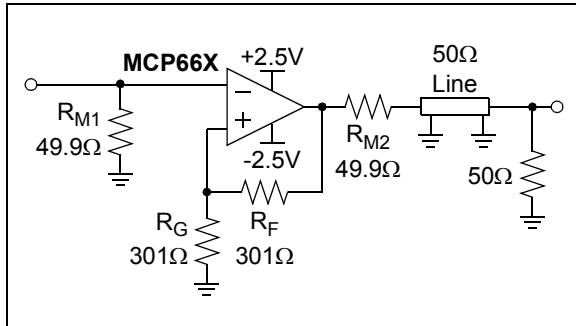

FIGURE 4-10: 50Ω Line Driver.
Differential gain (DG) and differential phase (DP) refer to the non-linear distortion produced by an NTSC or a phase-alternating line (PAL) video component. Table 1-2 and Figure 2-34 show the typical performance of the MCP661, configured as a gain of +2 amplifier (see Figure 4-10), when driving one back-matched video load (150 Ω , for 75 Ω cable). Microchip tests use a sine wave at NTSC's color sub-carrier frequency of 3.58 MHz, with a 0.286V_{P-P} magnitude. The DC input voltage is changed over a +0.7V range (positive video) or a -0.7V range (negative video).
Figure 4-10 shows the MCP661 driving a 50Ω line. The large output current (e.g., see Figure 2-18) makes it possible to drive a back-matched line (R_{M2} , the 50Ω line and the 50Ω load at the far end) to more than $\pm 2V$ (the load at the far end sees $\pm 1V$). It is worth mentioning that the 50Ω line and the 50Ω load at the far end together can be modeled as a simple 50Ω resistor to ground.